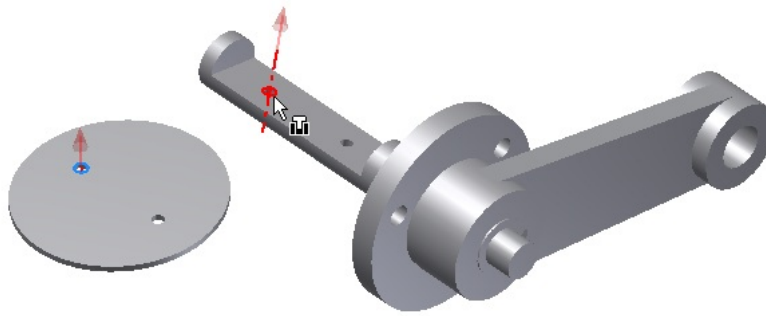

Figure 9-73 *Selecting the faces to apply the constraint*
7. Choose the **Insert** button and then select the circular edge of one of the holes on the top face of the Plate as the first edge to apply the constraint, refer to Figure 9-73.
8. Select the circular edge of the right hole on the flat face of the Shaft as the second edge to apply the constraint, see Figure 9-73. Then, choose the **Apply** button to apply the constraint.